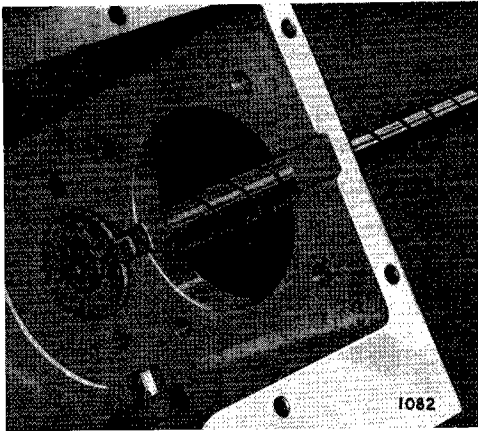

Fig. 29.
Using heavy grease to support it, smear the steel face of the front countershaft thrust washer (119) and locate this in the gearcase, placing the bronze face towards the gear with its tag in the recess provided. Centralise the washer by inserting the rear end of the countershaft (112) through the gearcase as shown on Fig. 29.